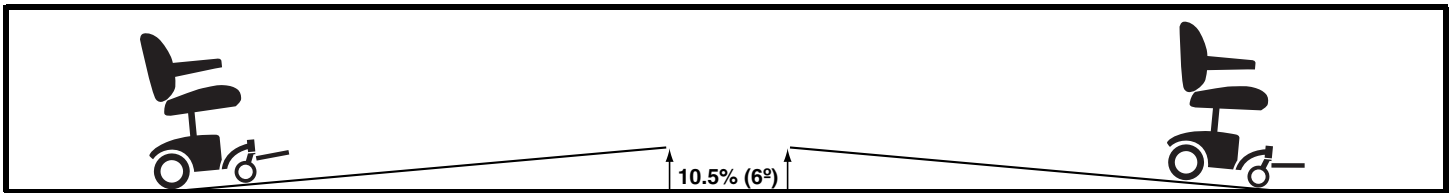

Figure 1. Maximum Recommended Safe Slope (Ascending and Descending)
**WARNING!** Even though your power chair is capable of climbing slopes greater than those illustrated in figure 1, do not, under any circumstances, exceed the incline guidelines or any other specifications presented in this manual. Doing so could cause instability in your power chair.
Pride recommends that the maximum slope of an incline you attempt to safely ascend or descend on your power chair does not exceed 10,5% (6°). See figure 1.